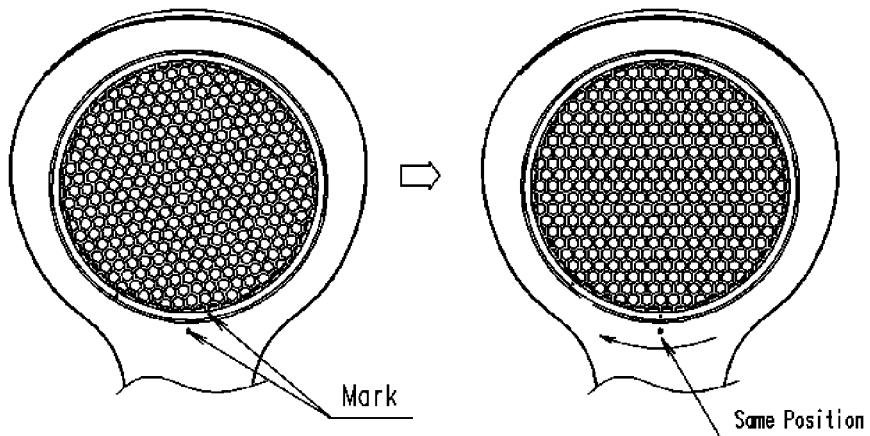

Figure 9
6. Assemble Air inlet grill into Housing B by aligning mark of Air inlet grill and mark of Housing B as shown in Figure 9.